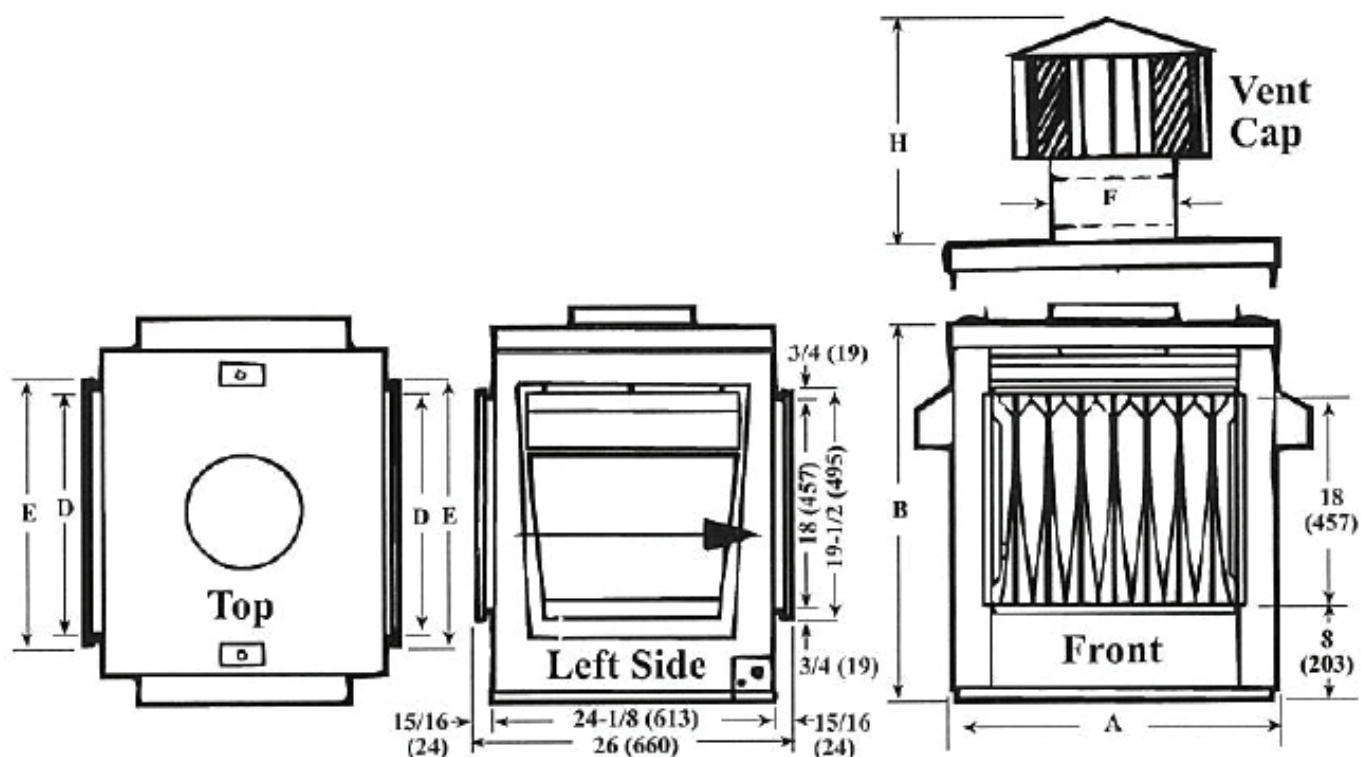

Figure 3. Model RX Series Dimensions (Refer to Table 5)
- Dimensions for model series RX are shown in Figure 3 and listed in Table 5.